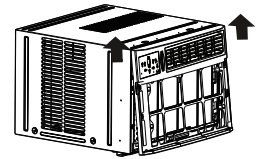

Fig. 3A
5. Gently lift front panel off unit. (See Fig. 3A.)